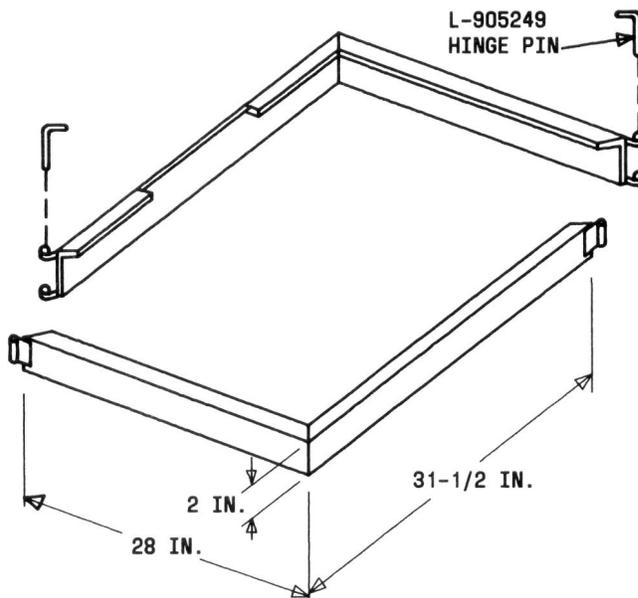

Fig. 7—KS-21976, List 4 Pad Fixture
2.06 The List 4 pad fixture and List 14 pad fixture (Fig. 7) are similar, except for the cutout for the foundation. They facilitate the construction of a concrete (or equivalent) floor pad. The List 4 pad is intended for use with the List 1 foundation and the List 14 with the List 11 foundation.
E. List 4 or 14 Pad Fixture, (Fig. 7)